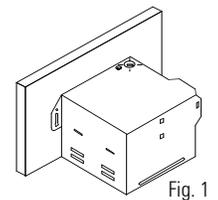

Fig. 1
- Locate the housing next to the joist and adjust the height so the housing is level with the finished ceiling. If the unit is being installed in new construction, use the drywall thickness gauge to line up the bottom of the joist with the appropriate drywall thickness indicated (fig. 1). Secure the housing directly to the joist through the two holes and two keyhole slots provided.